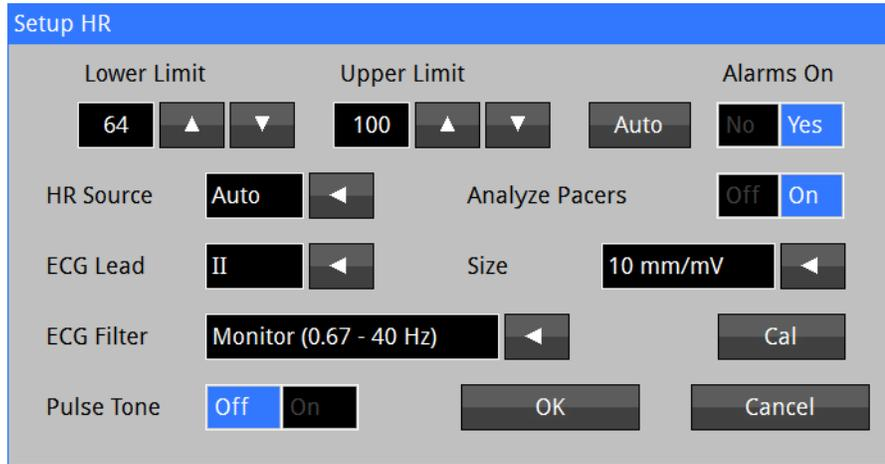

Figure 12: HR Setup Menu
- 1) Touch HR Numeric field and the Setup HR menu will be displayed (refer to Figure 12);